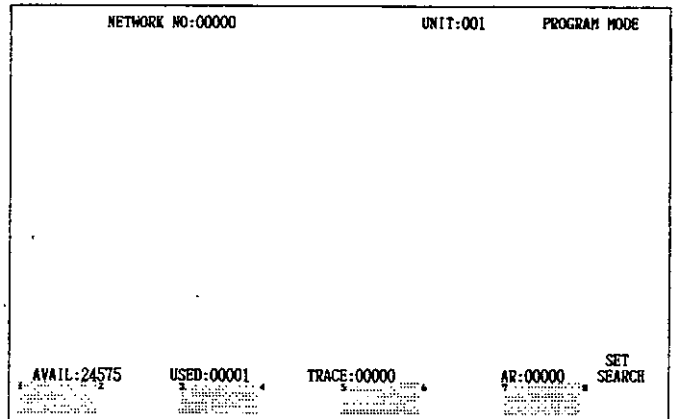

Fig. 4.7
4. With the display shown in Fig. 4.7, the LADDER programmer can be operated. Either “PROGRAM MODE” or “MONITOR MODE” is displayed in the upper right area of the screen, according to the selected mode.